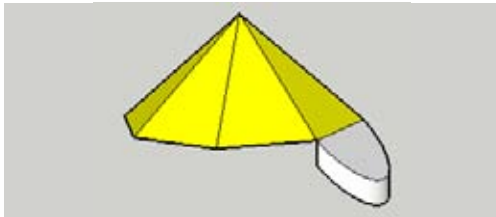

Figure 5-84
11. Trim the faces to get a new, round flap (Figure 5-84).